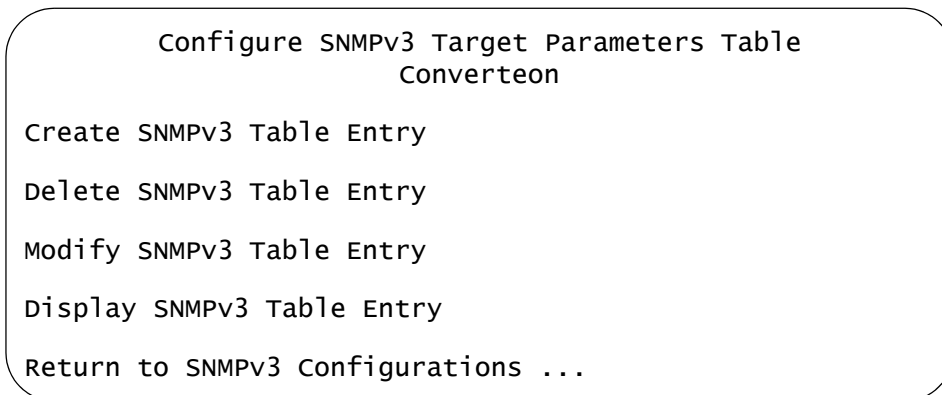

Figure 136. Configure SNMPv3 Target Parameters Table Menu
- ❑ From the Main Menu, select **Configuration -> System Configuration -> System Parameters Configuration -> SNMPv3 Configurations -> Configure SNMPv3 Target Parameters Table**. The Configure SNMPv3 Target Parameters Table menu is shown in Figure 136.